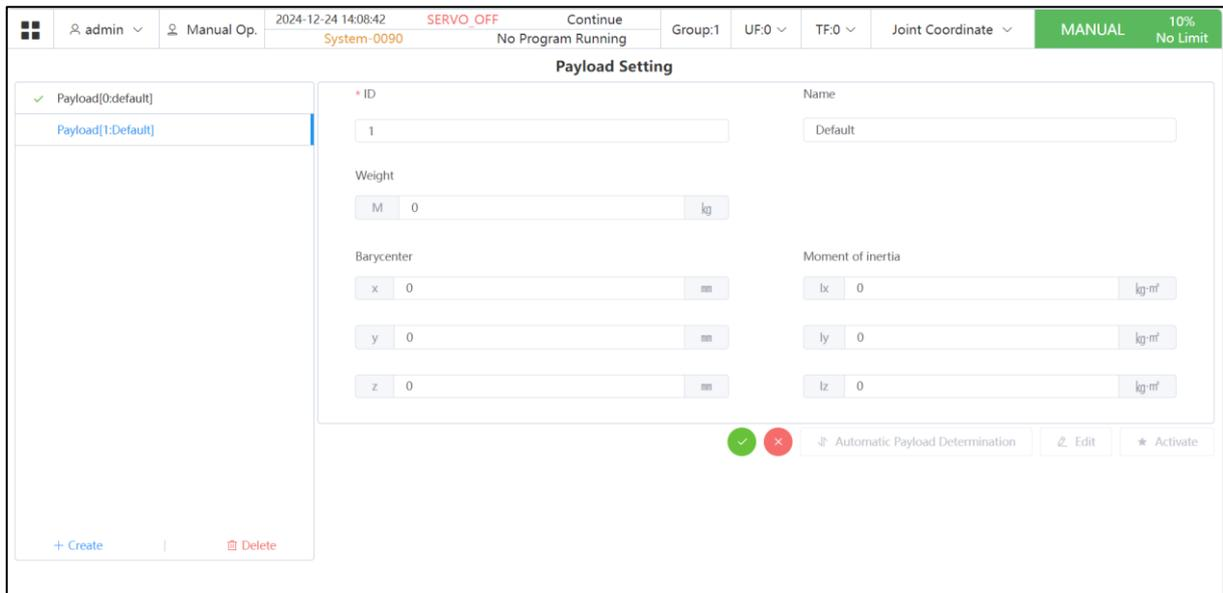

Fig. 2.39 Payload Parameter Interface
2. Click "New" and set a new payload. Click "Edit" to manually input payload data, as shown in Fig. 2.39. -  Cancel editing, -  Save editing.
Among others, M (kg) is the mass of the payload, X (mm), Y (mm) and Z (mm) are the barycenter positions of the payload relative to the flange center as shown in Fig. 2.39, and Ix, Iy and Iz are the rotational inertia of the payload relative to X, Y and Z coordinates. When the payload of the robot is taken as a mass point, the moment of inertia Ix, Iy and Iz are written as 0.